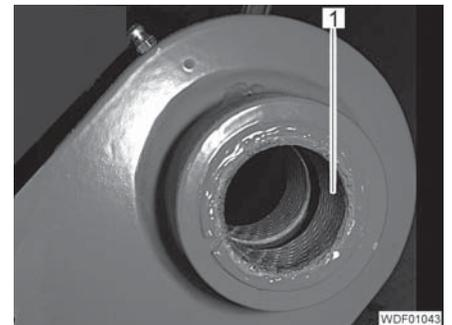

Fig. 325 Rear bearing (left)
- Use suitable lifting gear to raise the load arm until the rear bearings (Fig. 325) are free.
- Drive out the bearing (Fig. 325,1) outwards.
- Drive in a new bearing (Fig. 325,1) from the outside.